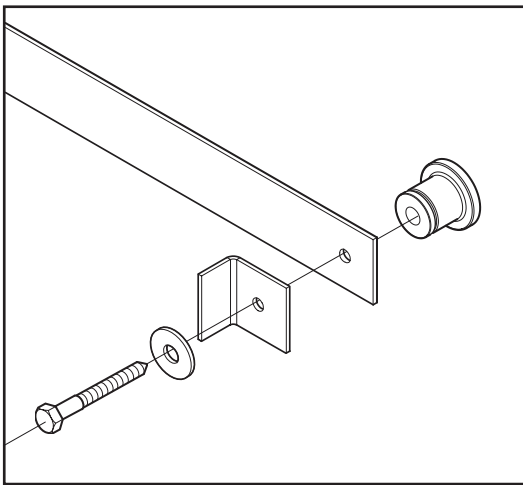

Figure 4
7. Attach one end of the track to the wall with with one hard stop (H.), one lag screw (B.), and one washer (E.) using a socket wrench with 9/16" socket (Figure 4). Do not tighten.